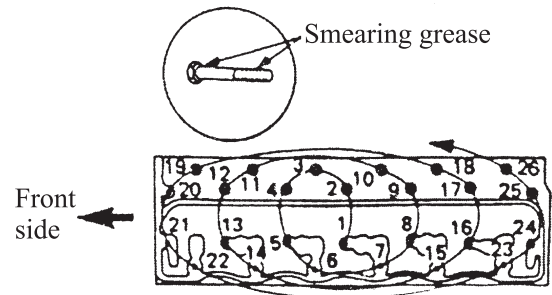

Fig. 1-8
(1) Tighten the cylinder head bolts one by one with 68 Nm moment according to the order shown in Fig. 1-8.
(2) Increase the tightening moment to 93 Nm and lighten the bolts one by one.
(3) Then turn each bolt 90° and screw tightly.